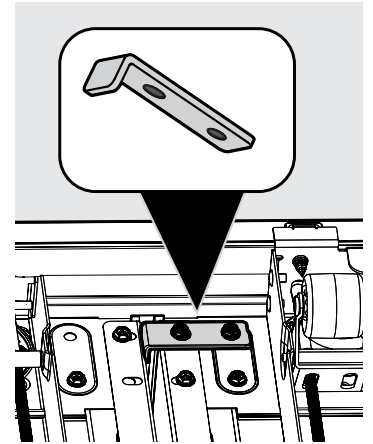

Fig. 8
4. With the refrigerator still on its back, use a  $\frac{5}{16}$ " nut driver to remove two 4H bolts and fasten the 10H L-Bar (Fig. 8).